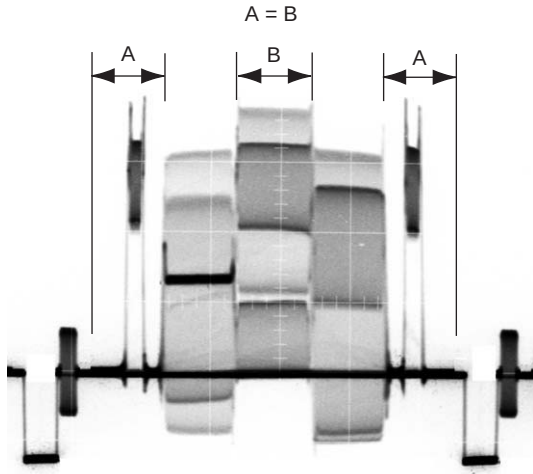
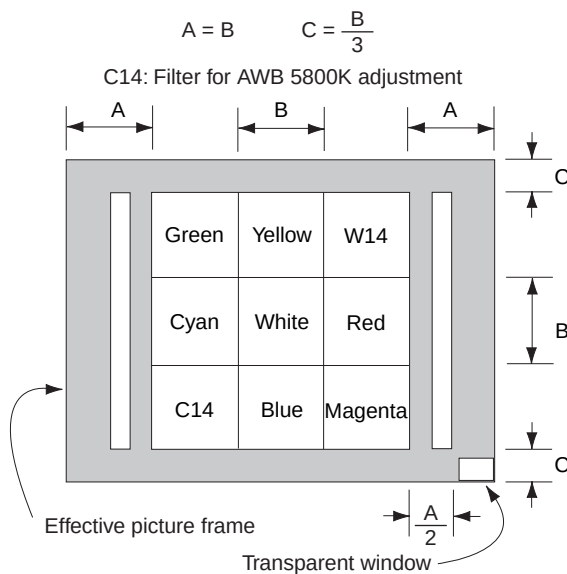

Fig. 6-1-19
Fig. 6-1-21
- 3) Upon successful completion of "1. Data Setting during Camera Adj.", "2. Picture Frame Setting" is executed. The following message is displayed, and then referring to Fig. 6-1-19 to Fig. 6-1-21, set the subject and click the **[OK]** button.
- 3) Upon successful completion of “1. Data Setting during Camera Adj.”, “2. Picture Frame Setting” is executed. The following message is displayed, and then referring to Fig. 6-1-17 to Fig. 6-1-19, set the subject and click the **[OK]** button.